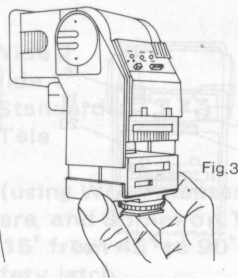

Fig.3
4. Push the module in a little more and straighten it up so that the tongue (3) enters the slot (24) as in Figure 3.